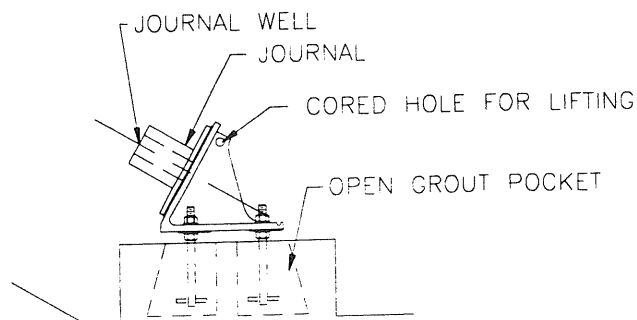

Figure D2
- c. Install the anchor bolts to the lower bearing stand. Do not tighten the anchor bolt nuts at this time. Place the lower bearing stand assembly into the grout pockets, Figure D2. Clean the inside well of the lower bearing of dirt, sand, or grit. Hand pack with clean grease just before pump installation. Refer to the lubrication instructions for type of grease. Keep clean until covered by the lower bearing housing.